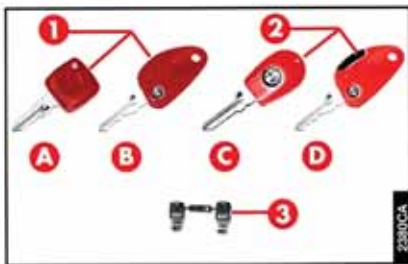

fig. 2
The car is supplied with two types of keys (fig. 2). The key (1) with the bordeaux grip is the "master" key. Only one is supplied and depending on the trim level, it may be as follows:
The CODE card (fig. 3) is also supplied with the keys and for cars fitted with alarm system also two copies of the emergency key (3-fig. 2); for use of these, refer to "Electronic alarm".
If the batteries in the remote control device transmitter are flat or if a fault affecting the electronic alarm is detected the system can be cut off using the emergency key (**3-fig. 2**) supplied with the car keys.